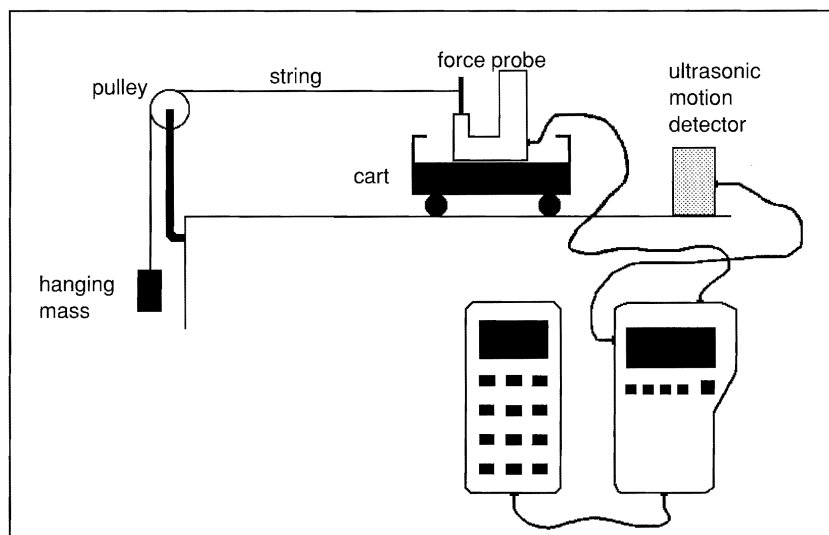

Figure 1: Equipment Setup
To connect the equipment as shown by Figure 1:
- 5 Secure the force probe to the dynamics cart as shown in Figure 1. Face the motion detector toward the back end of the cart. Make sure that the motion detector has a large enough target to detect. If necessary, tape a square piece of cardboard to the side of the force probe facing the motion detector.